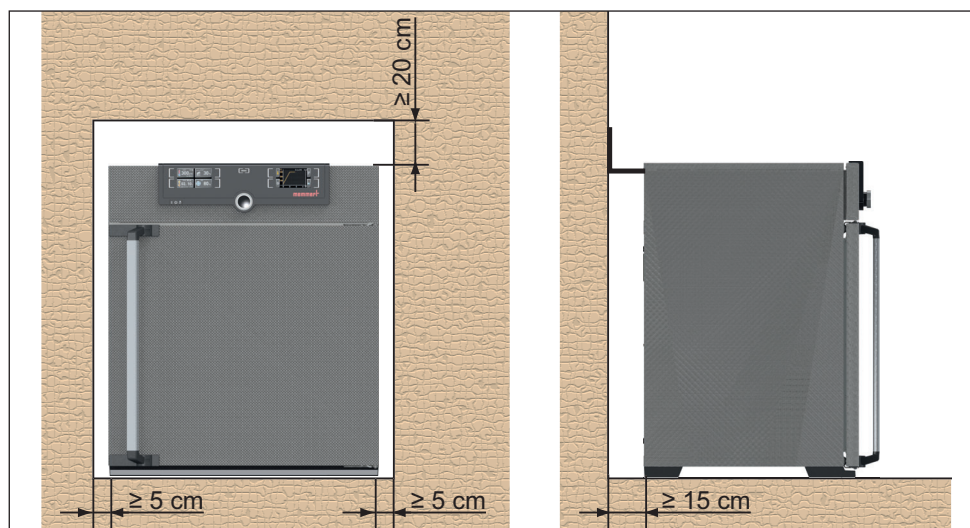

Fig. 8 Minimum clearance from walls and ceiling
The clearance from the ceiling must not be less than 20 cm and the side clearance from walls or nearby appliances must not be less than 5 cm (Fig. 8). Sufficient air circulation in the vicinity of the appliance must be guaranteed at all times.
4. Bend the tilt protection upwards by 90° in the desired distance to the wall (observe the minimum distance to the wall, see Fig. 8).